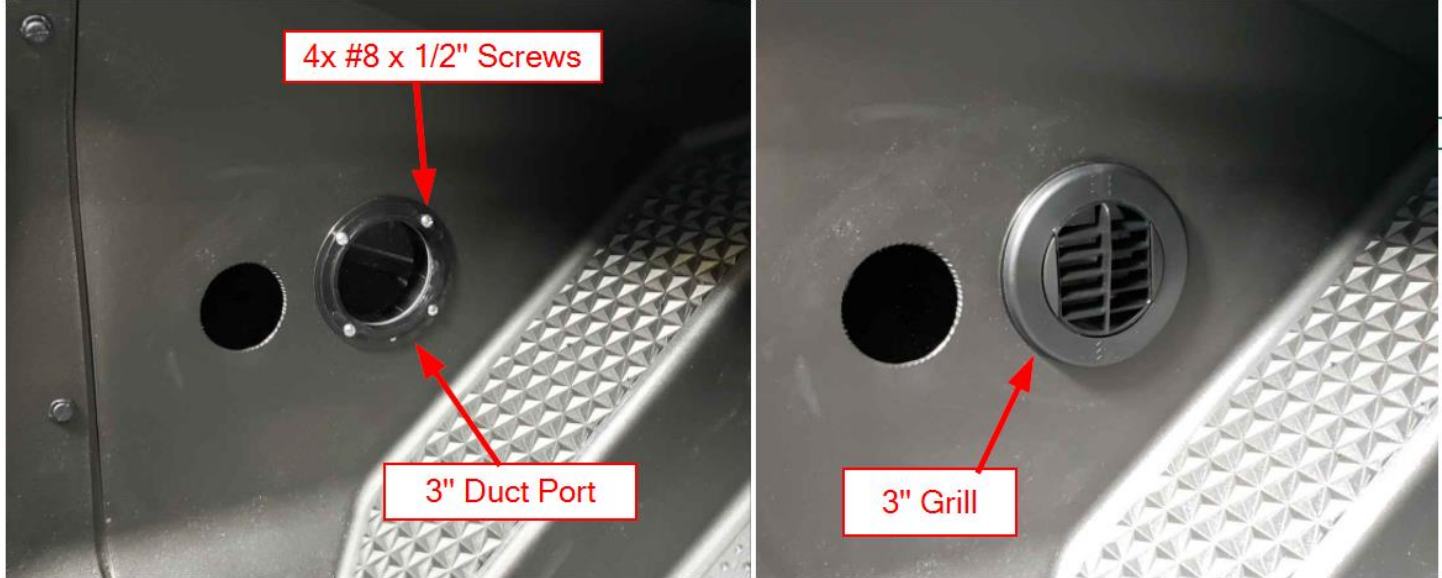

Figure 12
- a. Use four of the #8 x 1/2" Screws to install the 3" Duct Port into the Passenger Side Foot well as shown in Figure 12.
- b. Press the 3" Grill Cover over the 3" Duct Port as shown in Figure 12.